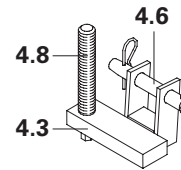

Fig. B2.03
3. Fix Height Adjusting Unit (4.3) with bolts $\varnothing 25 \times 180$ (4.6) and cotter pin to the Strongback CB. (Fig. B2.03)